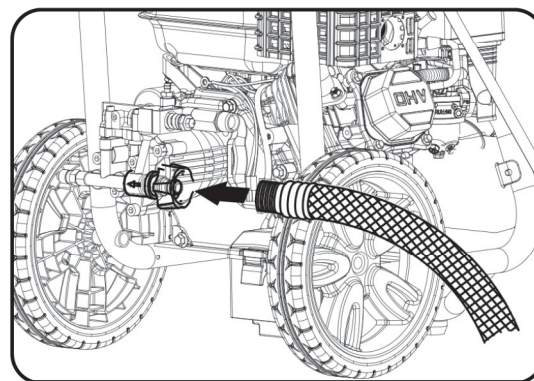

Fig.9
G. RACCORDEMENT DU TUYAU D'ARROSAGE AU NETTOYEUR HAUTE PRESSION (Voir fig. 9)